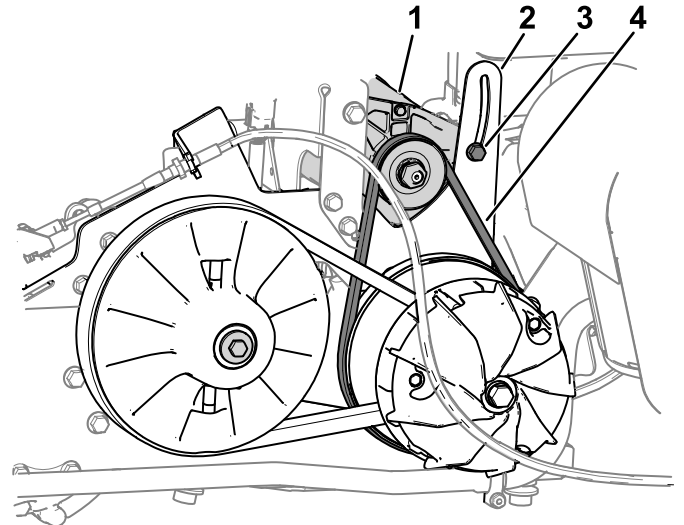

Figure 57
1. Loosen the pivot nut for the starter generator (Figure 57).
3. Apply downward pressure to the pry bar to rotate the starter generator down in the pivot-bracket slot (Figure 57) until the belt tension only allows 6 mm (1/4 inch) belt deflection with 44 N·m (10 ft-lb) of force.